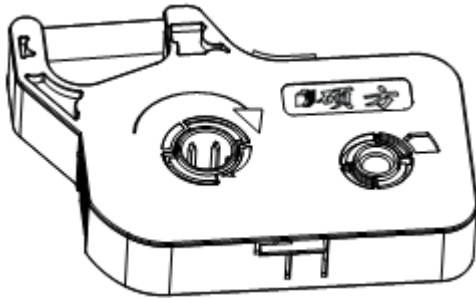

Figure 1 Ribbon Take-up
- (1) See Figure 1. Tighten the ribbon according to the direction of arrow on ribbon cassette so as to open and flat.
- (2) Make the print head in a non-printable state.